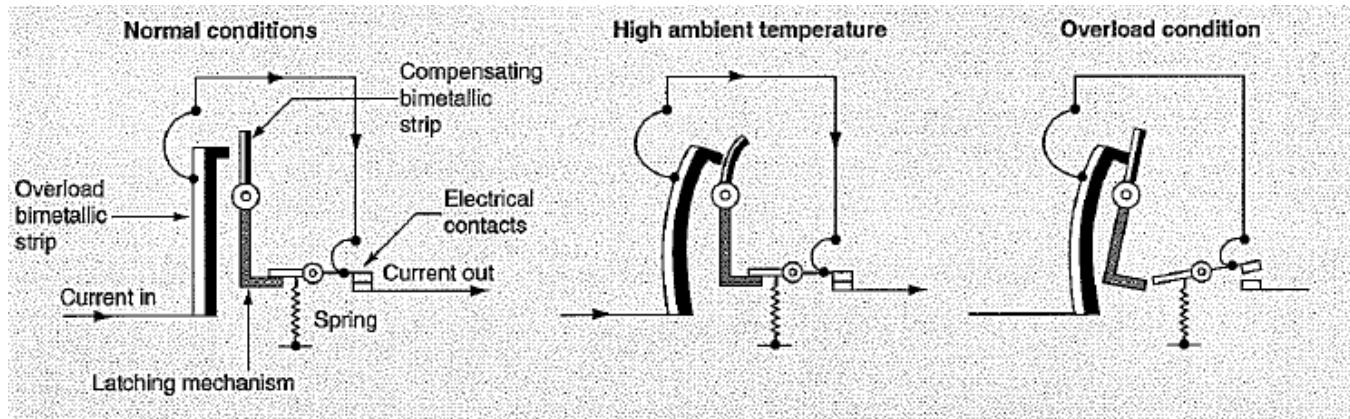

Figure 5.15: Ambient-Compensated Circuit Breaker
- 5-48 The action of this circuit breaker is shown in Figure 5.15. You can see that both bimetallic strips bend with an increase in ambient temperature, but only the overload element responds to the current. The circuit breaker trips only when the excessive current through the overload strip causes it to bend more than the compensating strip.